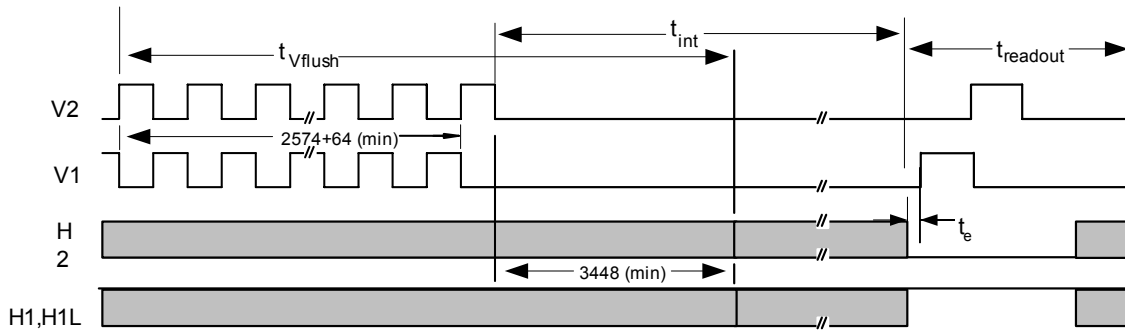

Figure 15 – Power-up Flush Cycle
6. See Figure 15 for a detailed description.